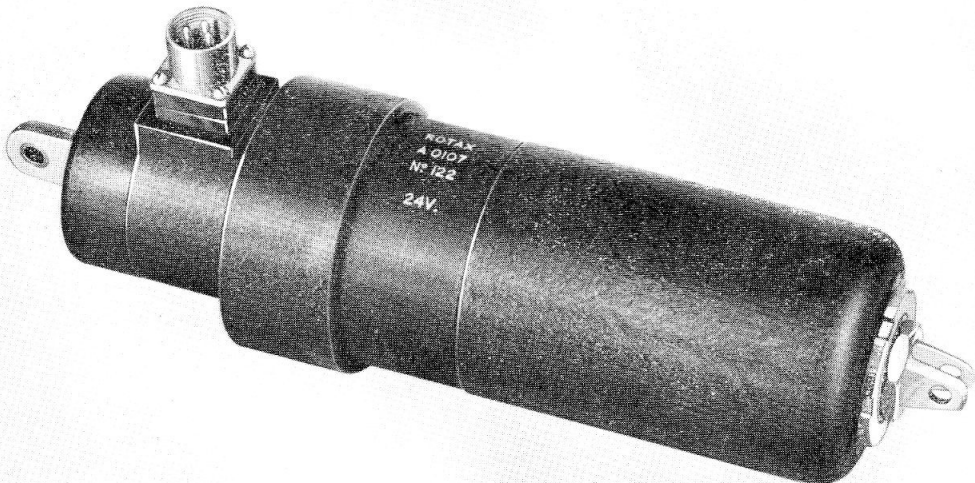
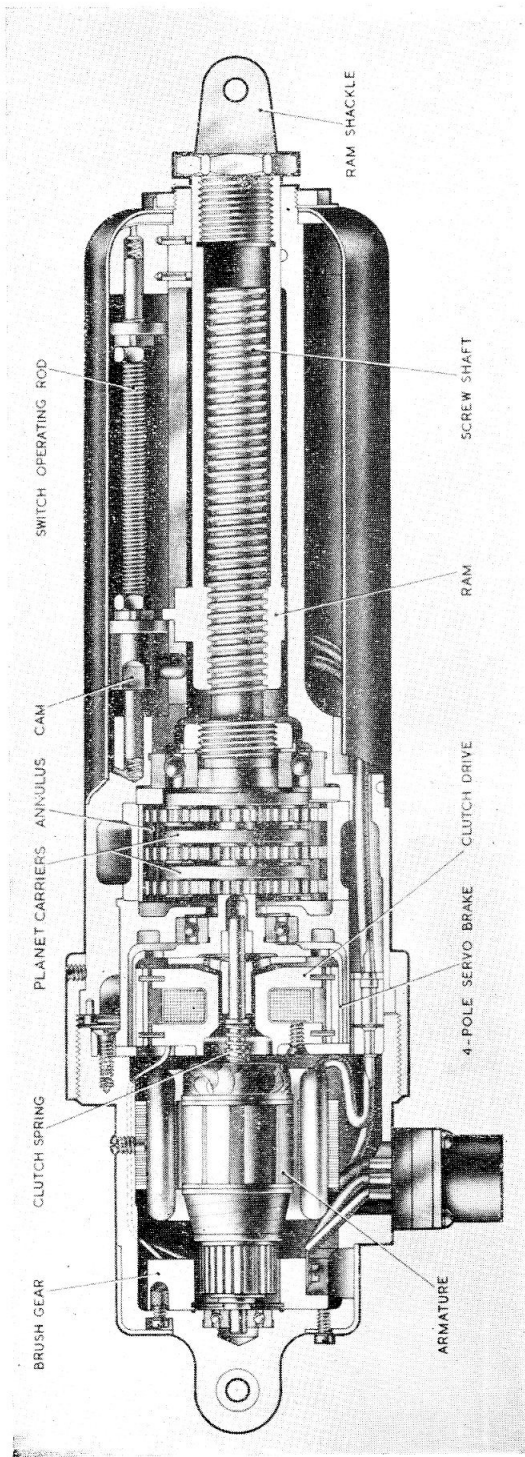

Fig. 1. Typical A0100 series actuator
Fig. 2. Sectional view
2. A typical actuator in the series is shown in fig. 1, with a sectional view in fig. 2. The machine is of in-line design, with the motor and ram on the same axis.